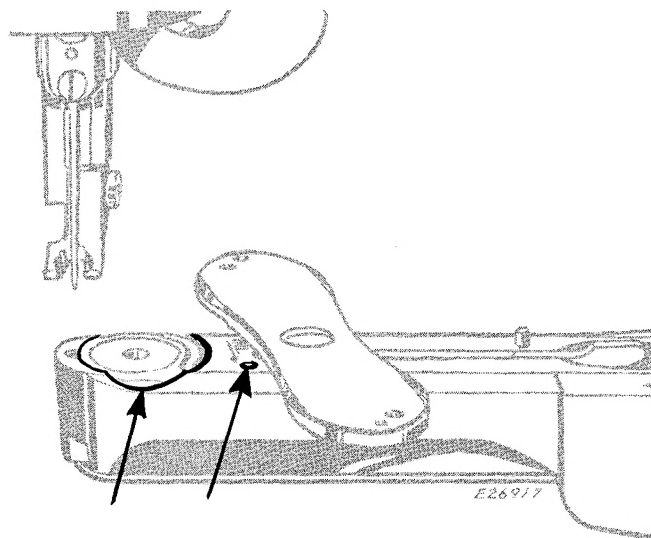
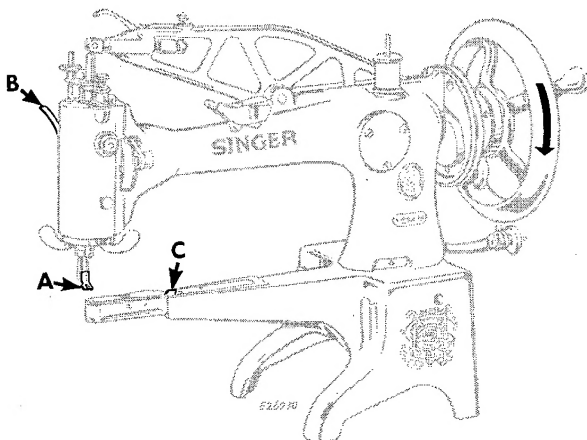
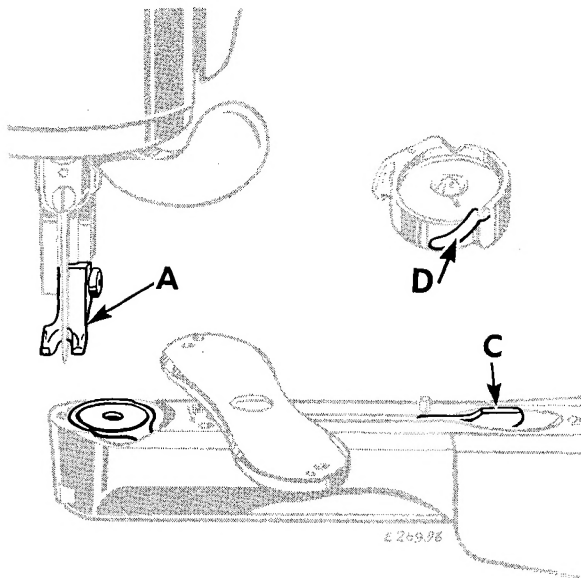

Fig. 4. Oiling Shuttle Race
Fig. 5. Operating Machine
Fig. 7. Taking out the Shuttle
To oil shuttle race, raise needle bar to its highest point and lift feeding foot A, Fig. 5 by moving lifter B upward.
Press down lever C, Fig. 5 and swing needle plate to position shown in Fig. 4.
Apply a drop of oil to the face of shuttle race and to the hole shown by arrow in Fig. 4.
1. Raise feeding foot **A**, **Fig. 5** by moving lifter **B** upward.
Raise needle bar to its highest point and lift feeding foot **A**, Fig. 7 by moving lifter **B**, Fig. 5 upward.
Press down lever **C**, Fig. 7 and swing needle plate around as shown.
NOTE: For 29K72 machine, move bobbin retaining spring **D**, Fig. 7 outward before taking out the bobbin.